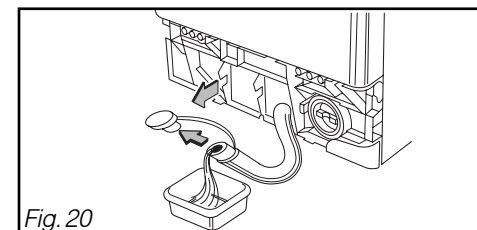

Fig. 20
- If your machine has a drain pipe, take it out by detaching the cap from the base (Fig. 20).
- Open the cap at the end of the pipe and let the water flow into the recipient (Fig. 20).